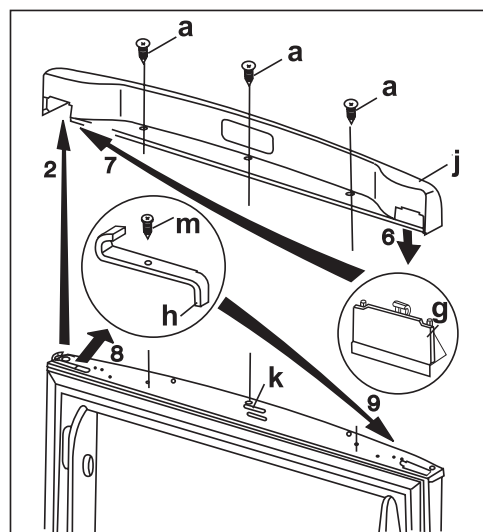

fig. 2.
3. Open the door of the fridge, dismantle the top cover (j) by removing the 2 screws (a), then close the door (Fig. 2).
4. Move the panel (g) from one side of the top cover (2) to the other (Fig. 2).
7. Unscrew the screw (m), remove the door stopper (h) and attach reversed on the other side (Fig. 2).
23. Open the fridge door, attach the top cover (j) using 2 screws (a); at the same time pay attention to the repositioning of the magnet (k), then close the door (Fig. 2).